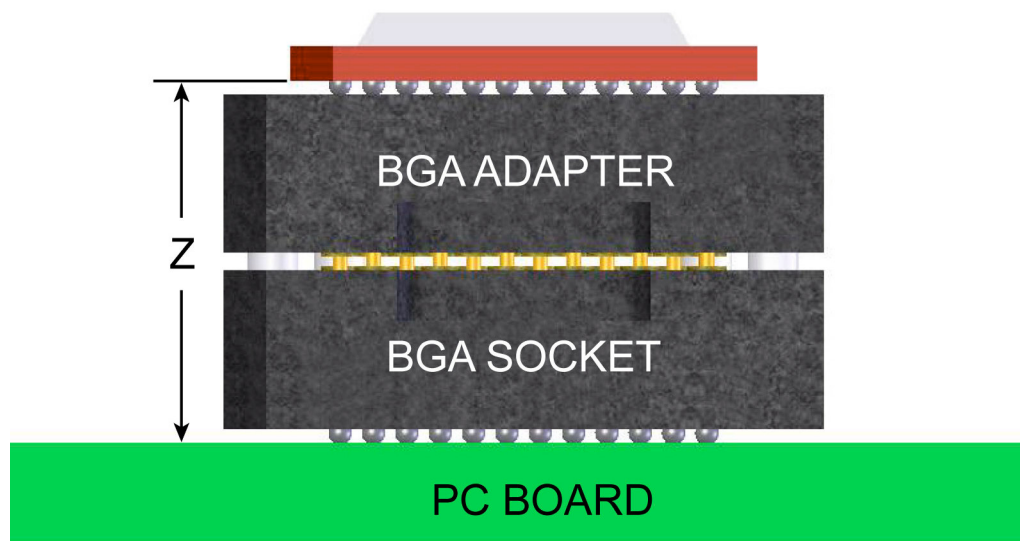

Fig. 3
- 3.4 Stack Height ("Z") as measured from the top of the PC board to the bottom of the device or mating PC board is 0.214" (5.44) approx. *Note: Mated height will vary depending on reflow profile, paste volume and PC board pad size. [Fig. 3]